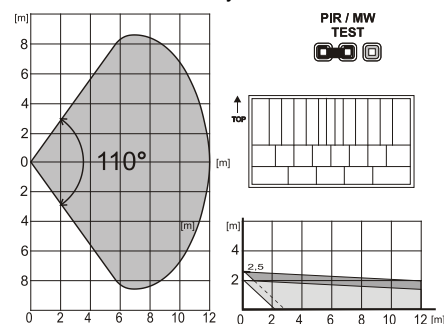

Fig 2: Coverage characteristics can be changed by using an alternative lens:
The PIR detector is equipped with a 110°/12m lens. Coverage – see Fig 2. Check the coverage with the jumper (8) in the **“PIR”** position. Movement is indicated by a red LED.